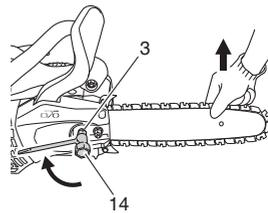

Fig. 9
8. Raise the guide bar end and securely tighten the guide bar clamp nuts (3) with the combi box spanner (14). (Fig. 9)